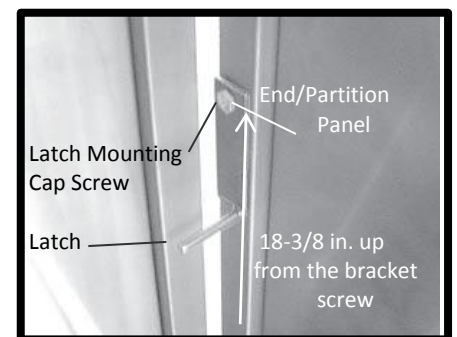

Figure 46: Mounting the resting shelf latch
1. Drill a 5/16 in. hole in the inside surface of the rear vertical frame of the end or partition panel about 18-3/8 in. up from the center of the panel bracket screw (Figure 46).